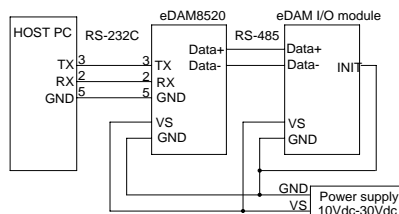

Figure 4.1
2. Connect a brand new eDAM module with the RS-485. Set the module in *Default State* by shorting the **INIT\*** pin to GND. Refer to Figure 4.1 for detailed wiring.